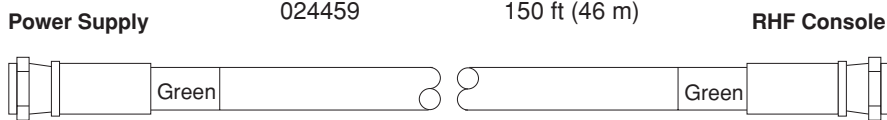

Figure 3-12 Cooling Supply Hose/Power Lead (-)
#### ③ Cooling Water Supply Hose /Power Lead (-) (Green) (Figure 3-12)